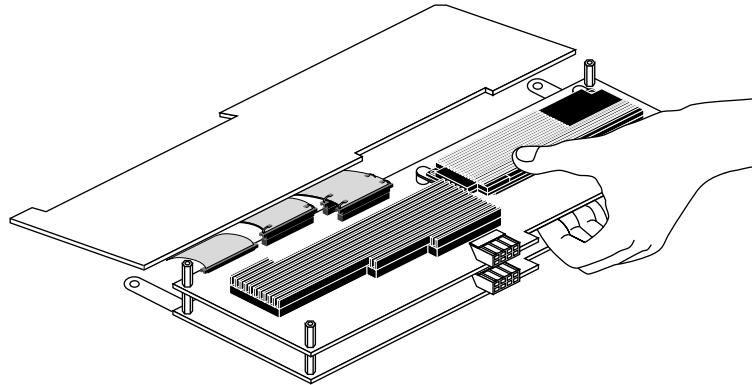

Figure 5-38 Seating the Texture Memory Option Board
- Place your fingers under the middle graphics board and your thumb on top of the texture memory board. See Figure 5-38.